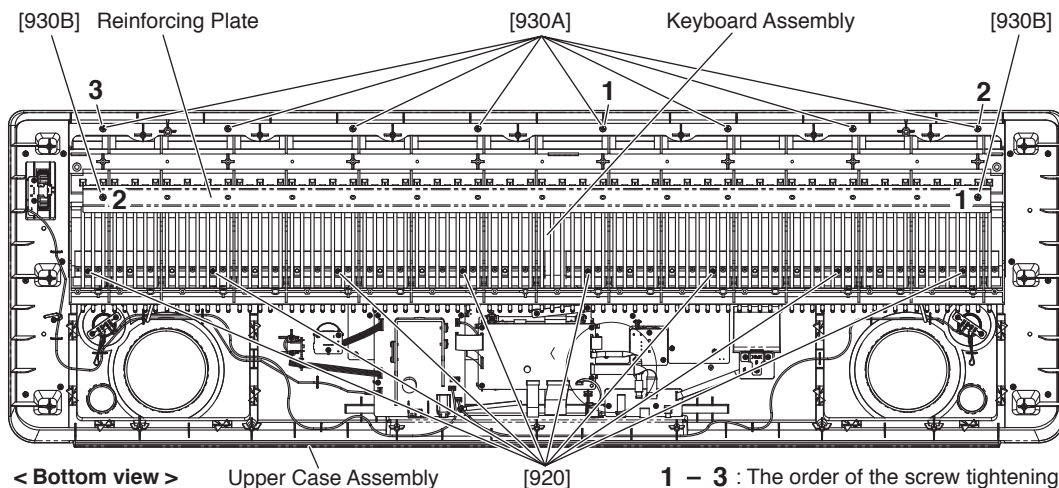

Fig.7
- 6-3 Remove the eight (8) screws marked [930A] and the eight (8) screws marked [920]. The GHL keyboard assembly can then be removed from the upper case assembly. (Fig.7)
- 6-4 Remove the two (2) screws marked [930B]. The reinforcing plate can then be removed from the GHL keyboard assembly. (Fig.7)
- * *When the reinforcing plate is assembled, tighten the screws marked [930B] in the order of 1 and 2. (Fig.7)*
- * *When the GHL keyboard assembly is assembled, tighten the screws marked [930A] in the order of 1, 2, 3 and the remaining screws. (Fig.7)*